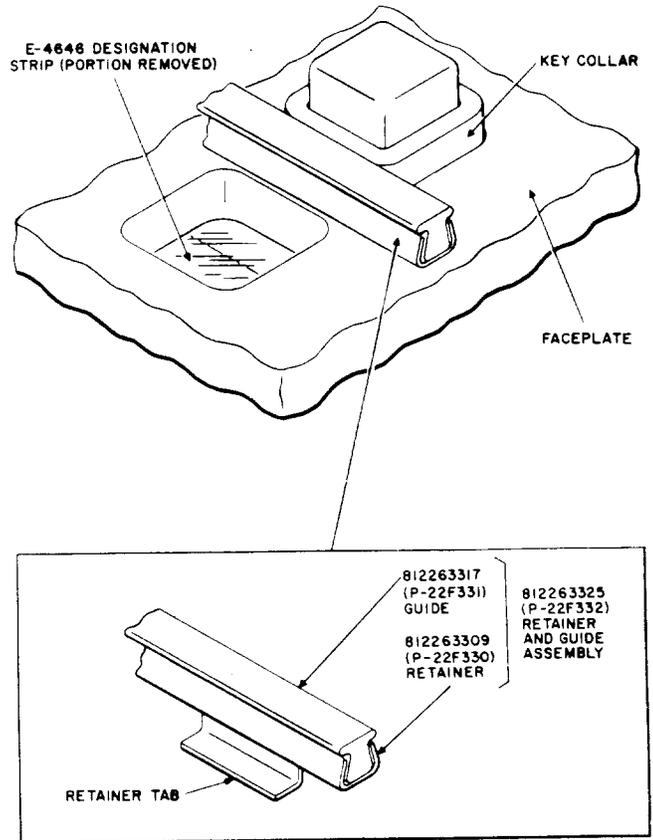

Fig. 24—812263325 (P-22F332) Retainer and Guide Assembly—Enlarged Cutaway End View
- (1) Insert the clear plastic guide 812263317 (P-22F331) in retainer 812263309 (P-22F330).
- (2) Remove faceplate.
- (3) Remove designation strip and trim off a portion covering the lamps adjacent to key collars.
- (4) Insert retainer tabs in key holes in faceplate.
- (5) Engage tabs to the left side of key opening so that the retainer tabs contact the bottom surface and the retainer base rests on the top surface of the faceplate (Fig. 24).
- (6) Replace the trimmed designation strip and faceplate.